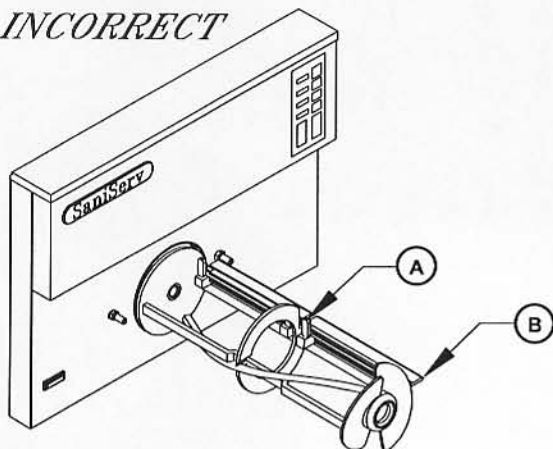
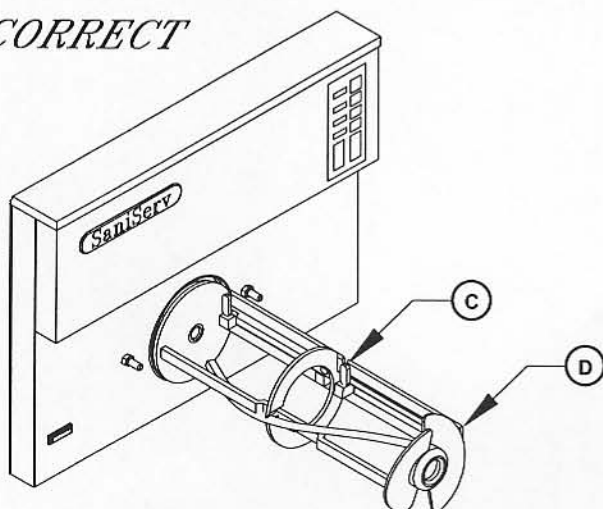

Fig. 26a
Fig. 26c
e. With the Auto/Cleanout switch set to the "OFF" position, insert the dasher assembly into the freezing cylinder as far as possible being careful not to damage the scraper blades. Damage will occur to the scraper blades and the machine will not operate properly if the scraper blades are installed facing in a clockwise direction - item "B" Figs. 26a, 26b.
The blades must rest against the tab - item "A". Proper blade installation is shown in Figs. 26c and 26d with the blades pointing in a counter clockwise direction - item "D" and resting upon the tab - item "C".
**Note:** The stator rod has not been displayed in Fig. 26a and Fig. 26c for clarity only. The stator rod **MUST** be installed for proper machine operation.